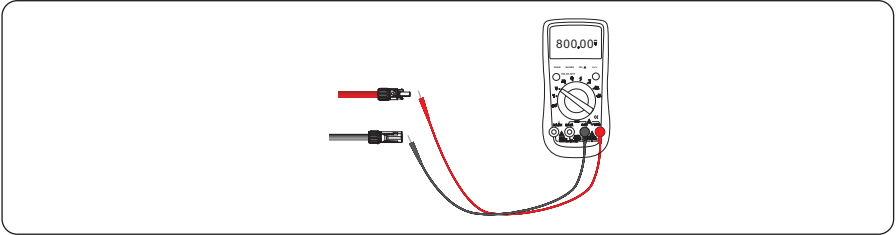

Figure 5.14 Checking the voltage of every route Strings
**Step 5** Measure the voltage of every route Strings using a multimeter. Ensure that the polarities of the DC input power cables are correct, as shown in Figure 5.14.